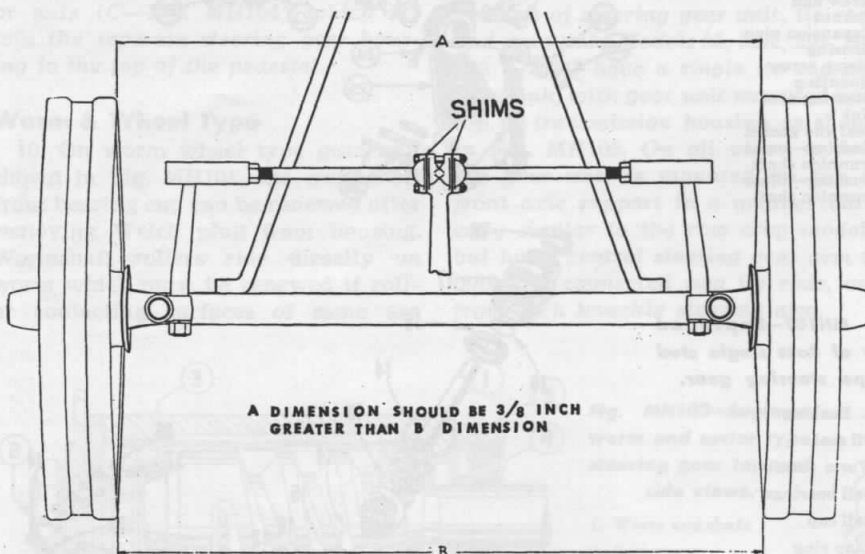

Fig. MH108—Front wheel toe-in—all standard models.
22. All standard (axle) models except the 55, 201, 202, and 203 are equipped with two tie rods. On early versions of the other models, the inner ends of tie rods were attached to the central steering arm by ball cap type socket joints. The socket caps were provided with adjusting shims as shown schematically in Fig. MH108. The outer ends of the tie rods were attached to the knuckle arms by adjustable tubular socket type joints. To remove looseness at outer joints of tie rods, turn adjusting plug in until tight, then back off one turn and re-install cotter pin. To remove looseness at inner joints, vary the number of shims under the caps.